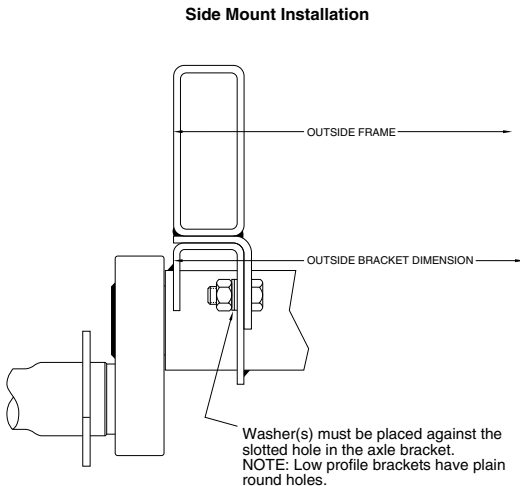

Figure 1
- For structural tube type frame rails, refer to Figure 1 for the recommended attachment.